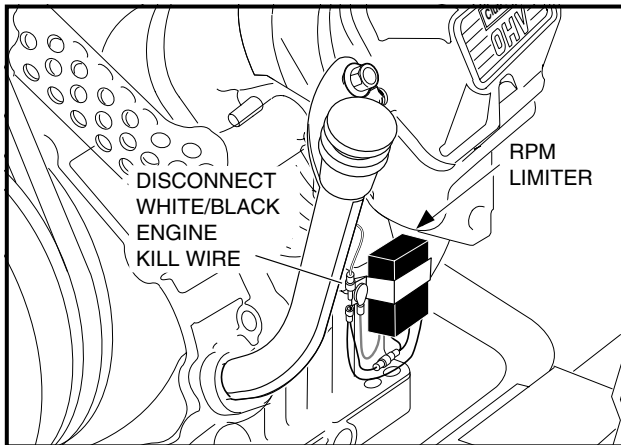

FIGURE 12-32
3. Disconnect engine-kill white/black wire at bullet connector located by the RPM limiter (**Figure 12-32**).